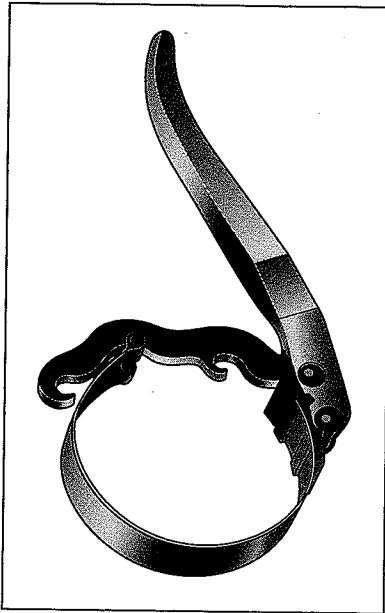

Figure 15-5:
- ✓ **An oil filter wrench (optional):** Most oil filters screw on and off. If your old filter hasn't been changed in a long time, you may need an oil filter wrench, shown in Figure 15-5, to unscrew your filter (but always tighten the new one by hand to avoid crushing the seal).